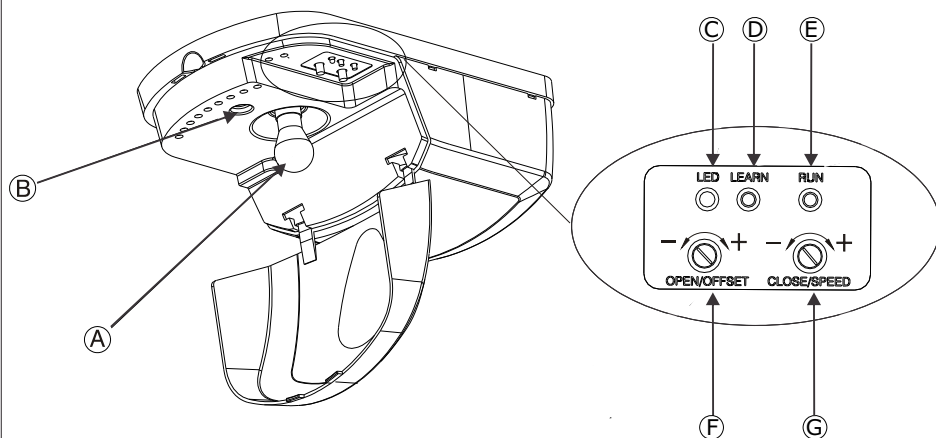

FIGURE 19. XTRAC CONTROL BOX
- Hinge open the Lamp Cover (Figure.19-A) to expose the adjustment controls
- With the garage door in the fully closed position - press the black "Run" Button (Figure.19-G) so that the garage door begins movement in the open direction
- As the garage door is opening slowly turn the (green) Open / Offset Adjustment Pin (Figure.19-G) in an anti-clockwise direction until the garage door stops
- Press the black "Run" Button (Figure.19-G) so that the garage door begins to open
- With the garage door in the fully open position, press the black "Run" Button (Figure.19-F) so that the garage door begins to close
- As the garage door is closing - slowly turn the (red) Close / Speed Adjustment Pin (Figure.19-F) in an anti-clockwise direction until the garage door stops and begins to Safety Reverse
- If the **XTrac** stops but does not reverse then turn the (red) Close / Speed Adjustment Pin five degrees in an anti-clockwise direction. (Figure.19-F)
- Will display green when power supply is active (Figure.19-C)
III.remove the Control Box cover Lock Screw point (Figure.19-B) Note: the Control Box Cover can be removed once the head of the screw is protruding by approximately 5mm.
- Hinge open the Courtesy Lamp Cover to expose the bulb (Figure.19-A)